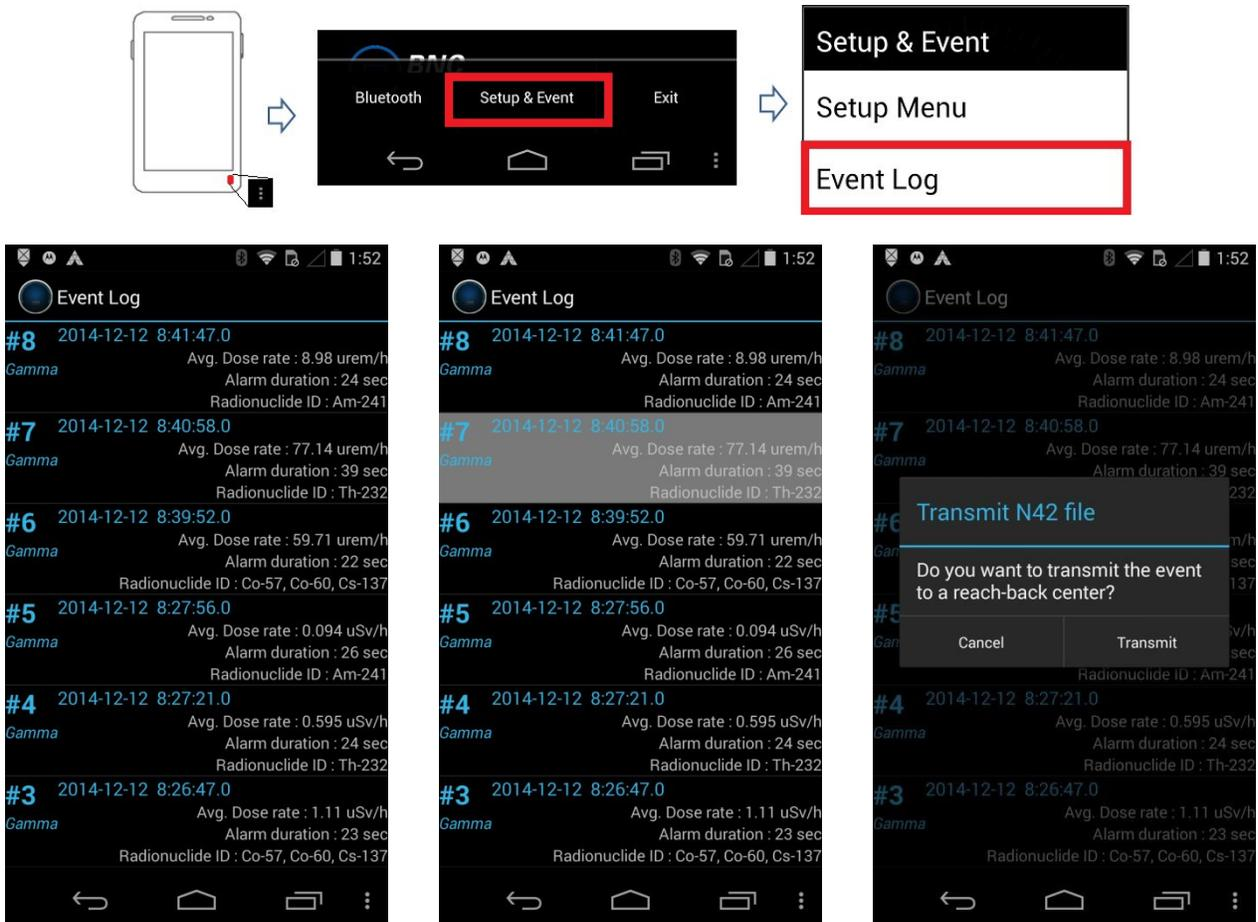

Figure 4.34. Wireless data transmission example
- a. Open the Event Log list (Figure 4.34, top)
- b. To select an Event Log from the list, touch and hold it for two seconds (Figure 4.34, lower left and center)
- c. At the “Transmit N42 file” prompt, touch **Transmit** (Figure 4.34, lower right)